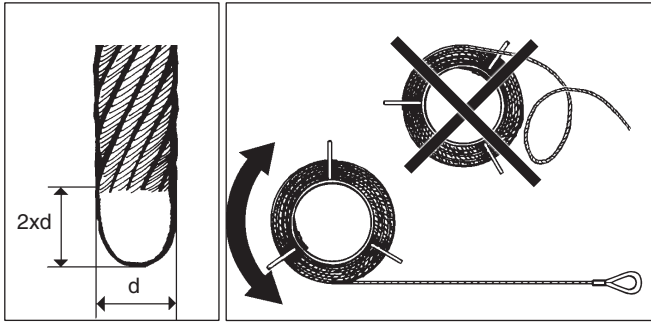

Fig. C.8 - TRACTEL® wire rope tip Fig. C.9 - Unwind the TRACTEL® wire ropes
Ensure that the wire rope diameter corresponds to the diameter indicated on the nameplate on the TIRAK™ hoist (107), that the length of the wire rope is sufficient and that the wire rope tip is as shown in fig. C.8.